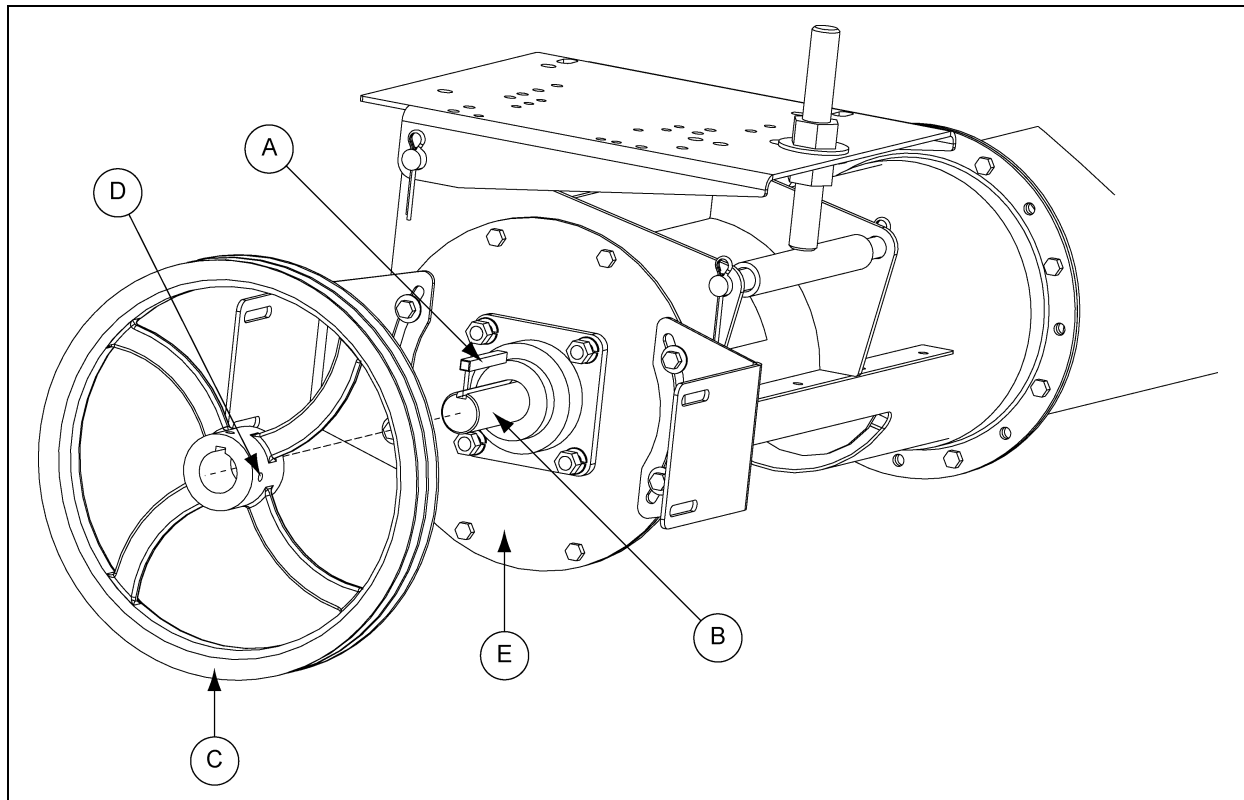

Figure 4I
1. Place and position the key (A) into the keyway located on the drive shaft (B).
2. Place the pulley (C) onto the drive shaft (B) with the set screw (D) side of the pulley facing away from the bearing plate (E). Position the pulley so that it is as close to the lock collar as possible, but not touching it.
3. Once the pulley (C) is appropriately positioned, tighten the set screw (D) with a hex head wrench to secure it to the drive shaft (B). (See Figure 4I.)